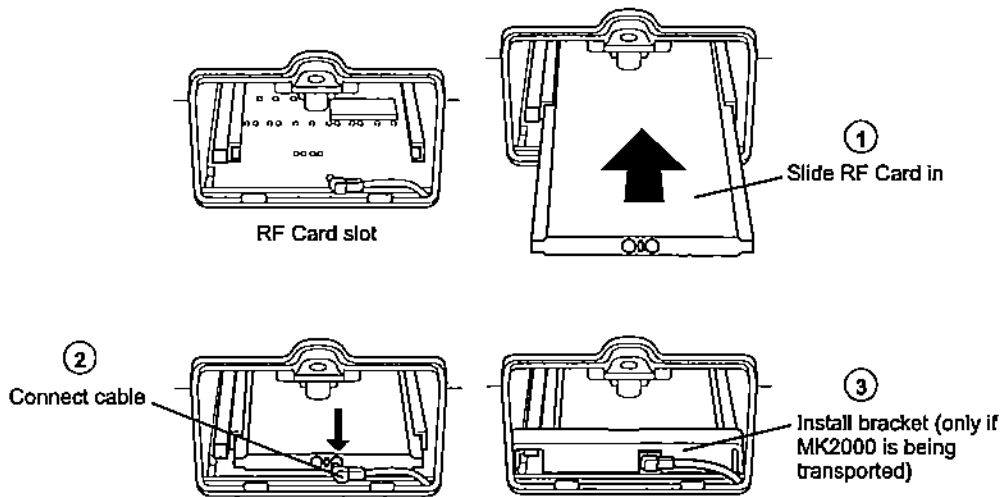

Figure 2-22. Installing the RF Card in the MK2000
4. Install the RF Card as shown in Figure 2-22.